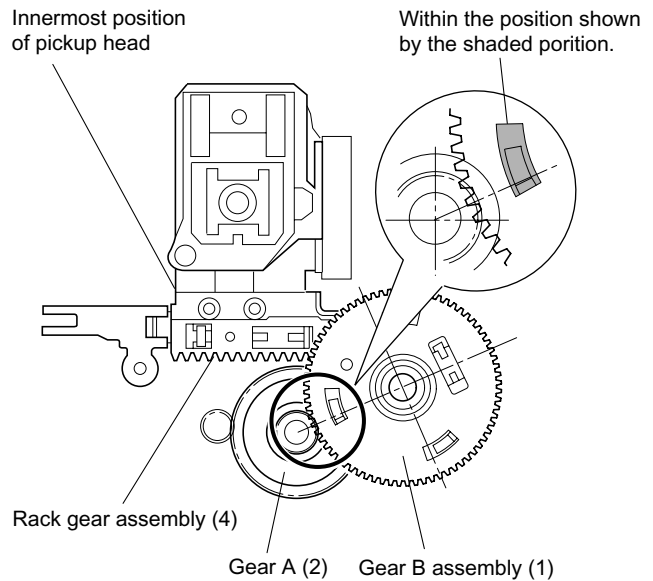

Fig. 2-1-20
3. Fit the positioning holes on the upper gear and lower gear of the gear B assembly (1) and mount on the pickup mechanism assembly with the phase matched. At this time, note that the phase of the gear B assembly (1) and the gear A (2) shows the status in the Fig. 2-1-20.